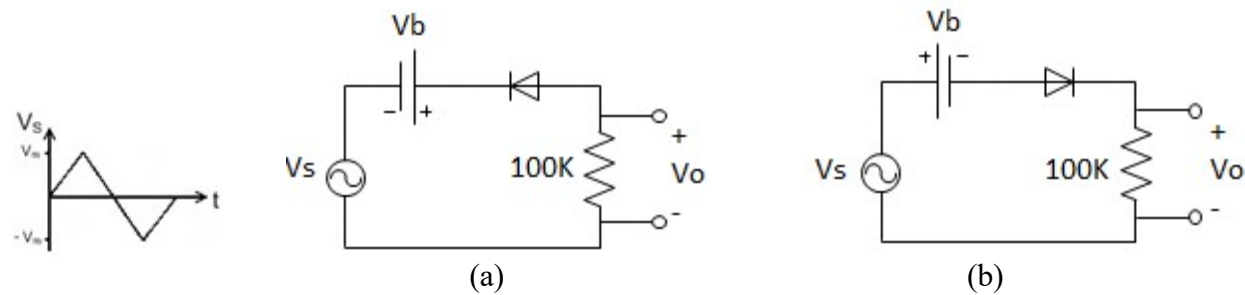

Figure 4.6: Series Clipper Circuit
1. Connect the circuit as shown in the figure 4.6.
Input-output Fig 4.6 (a)
Input-output Fig 4.6 (b)